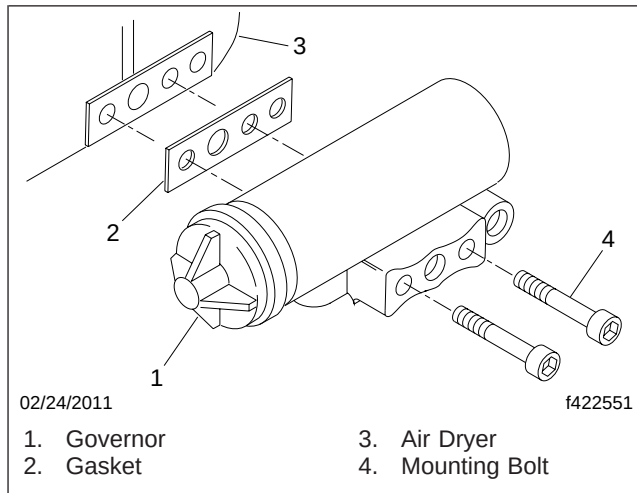

Fig. 1, Replacing the Governor
1. Remove the mounting bolts, governor and gasket as shown in Fig. 1. Discard the gasket.